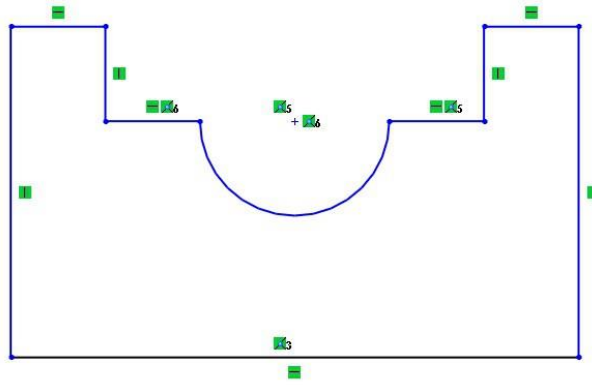
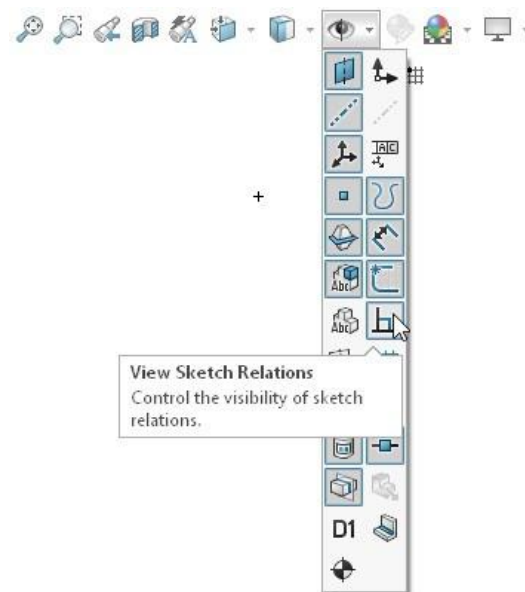

Figure 2-15 Final sketch for Tutorial 1
Figure 2-16 The **Hide/Show Items** flyout
19. Press the F key; the drawing display area is modified and sketch fits into the screen. The final sketch for Tutorial 1 with the grid display turned off is shown in Figure 2-15.
Figure 2-15 shows the relation symbols that are applied automatically while drawing the sketch. To control the display of relations on and off, choose the **Hide/Show Items** button in the **View (Heads-Up)** toolbar; the flyout will be displayed, refer to Figure 2-16. Next, choose the **View Sketch Relations** button which is a toggle button from this flyout.